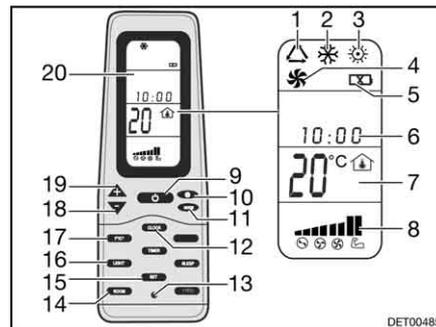

Fig. 145 Remote control
- Press the ON/OFF button (Fig. 145,9).
- Press the "Mode" button (Fig. 145,11) as often as required until the required mode (Fig. 145,1, 2, 3 or 4) is indicated on the display (Fig. 145,20).
- Use the "+" (Fig. 145,19) and "-" (Fig. 145,18) buttons to set the desired temperature.
- Use the fan speed button (Fig. 145,10) to select the desired fan level.